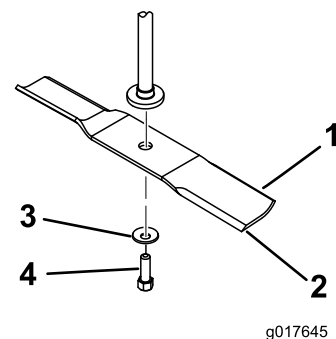

Figure 57
Hold the blade end using a rag or thickly-padded glove. Remove the blade bolt, curved washer, and blade from the spindle shaft (Figure 57).
1. Install the blade onto the spindle shaft (Figure 57).
2. Install the curved washer (cupped side toward the blade) and the blade bolt (Figure 57).